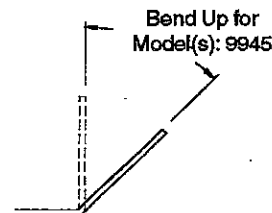
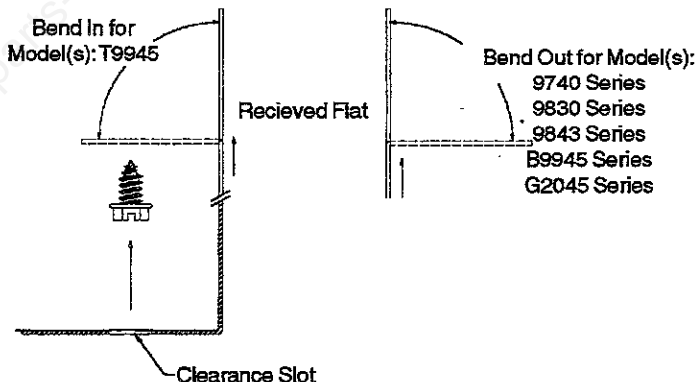

FIGURE 2
FIGURE 3
3. Next, Bend tabs on the blower box bottom, as shown in figure 2, in accordance to which unit you purchased.
4. For the 9740, 9830, 9843, B9945, G2045 models, attach blower box bottom with the bottom clearance holes using four of the #10A x 1/2 Hex head screws supplied in the parts bag. Use the top two clearance holes for the T9945. (See figure 3.) NOTE: For easier access, use the four larger slots on the back of the blower box to tighten screws. (See figure 2.)